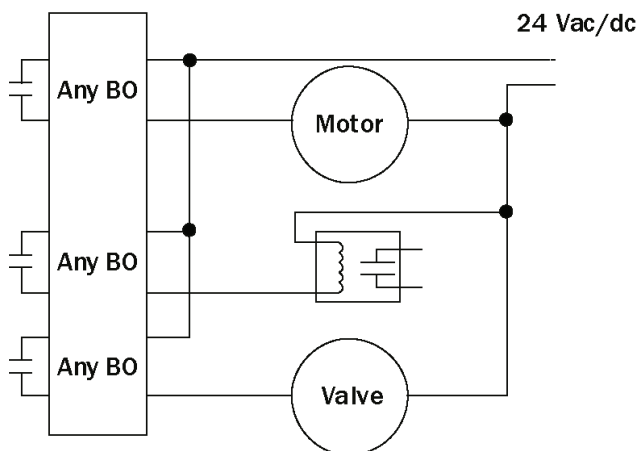

Fig. 22 — Binary Output Diagram
4. Connect the binary output wiring to the screw terminals on the I/O Flex 6126 controller and to the controlled device (Fig. 22).